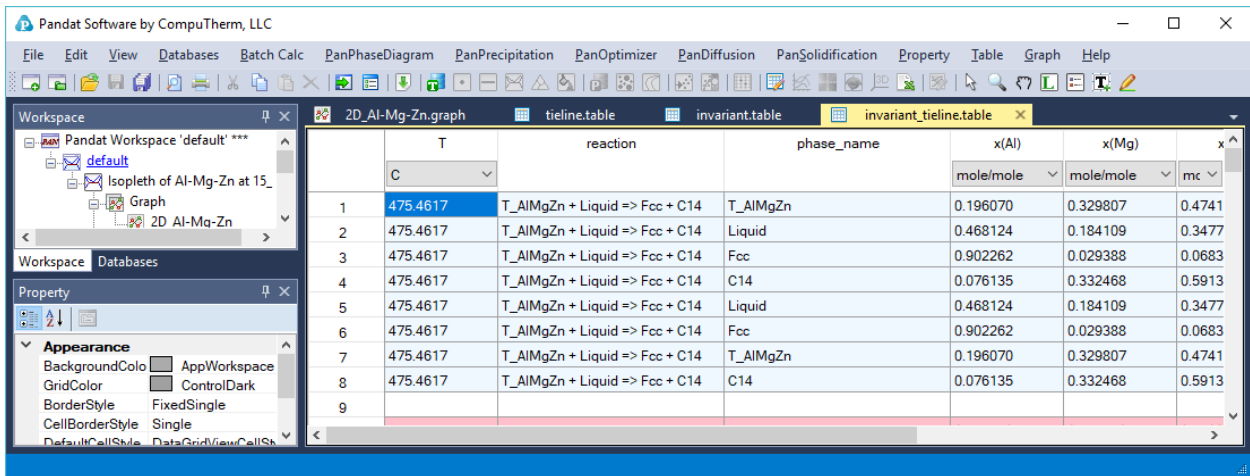

Figure 1.6.4: Invariant_tieline table showing composition of each phase involved in the invariant reaction
- The invariant reactions and the phase composition for every phase in the invariant reaction are listed in invariant_tieline table as shown in Figure 1.6.4.